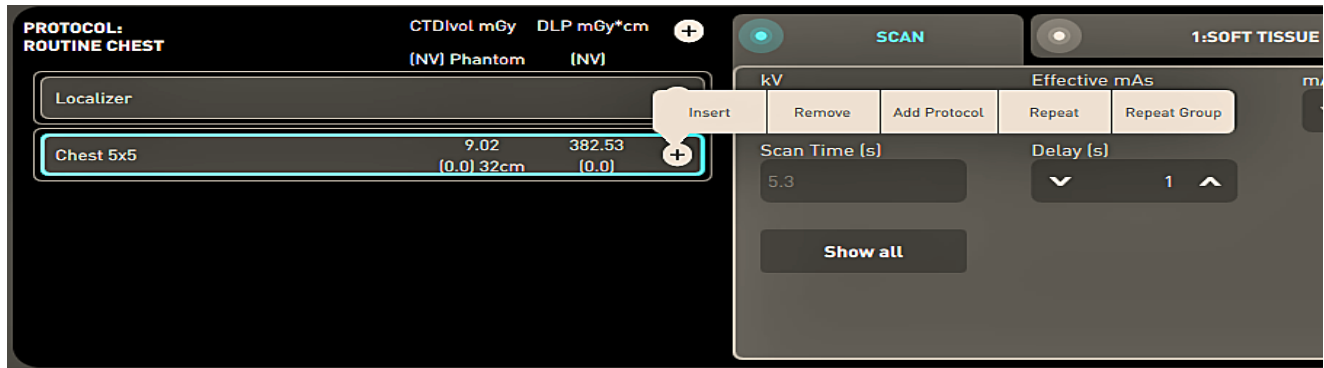

FIGURE 5.27 Creating Additional RECON Set
1. Press and hold the PLUS sign next to a scan set until a menu appears (FIGURE 5.27).